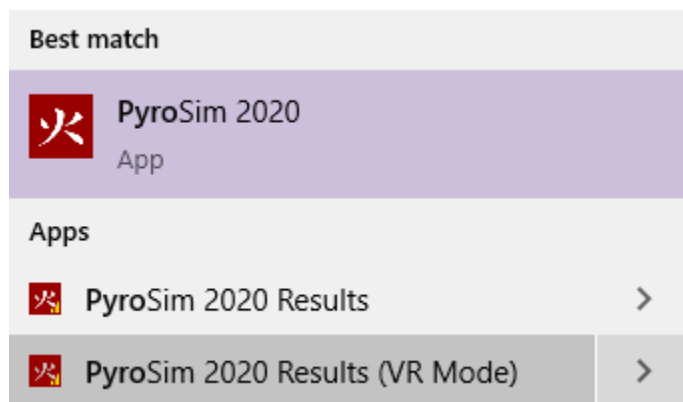

Figure 32. Shortcut Menu
3. While not wearing the headset, run Results using the PyroSim VR Mode shortcut from the Start menu Figure 32.